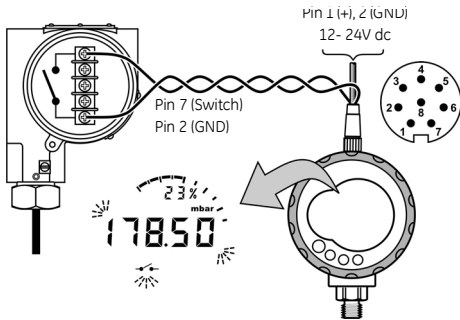

Figure 2: Example configuration - Switch input
1. Connect the instrument (Figure 2/Table 3).
Figure 2 shows the display when the switch condition changes (open or closed). The analogue dial and the % indication continue to monitor the normal pressure. The switch symbol and the value on the main display flash to give the switch condition and the switch pressure.